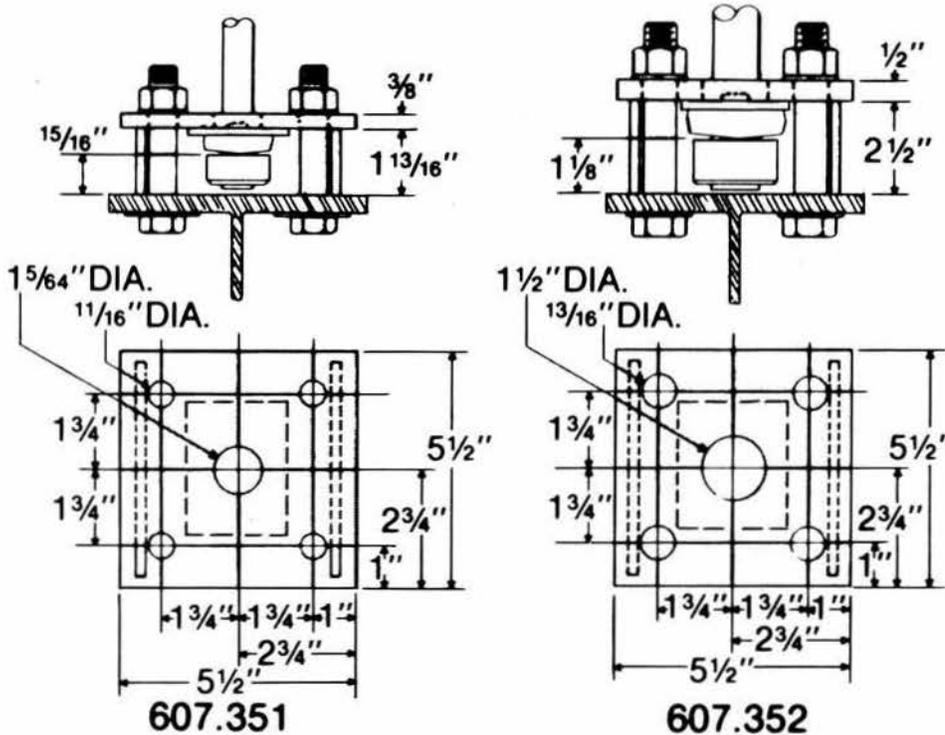

FIGURE 29
Girder track hangers are used to attach the lower end of gimbal hanger rod assemblies to the top flange of 604 *SuperTrack™ Girder* and 605 *TrojanTrack™ Girder*. They are furnished complete with bolts, nuts, and lockwashers; and do not require a hardened bearing washer. Refer to Figure 29.
- Girder Track Hanger 607.353 - For 604 *SuperTrack™ Girder*, 605 *TrojanTrack™ Girder*, and 605 *Super-TrojanTrack™ Girder* supported by $1\ 1/2''$ diameter gimbal hanger rods. (Not shown in Figure 29.)